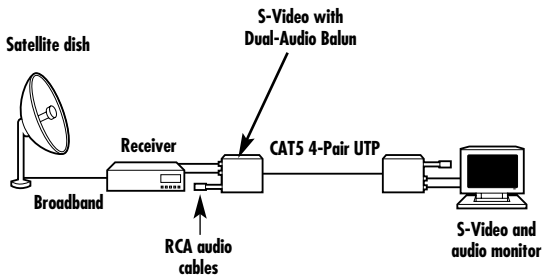

Figure 3-1. S-Video with Dual-Audio Balun satellite S-Video and audio application.
8. Connect a 4-pair CAT5 cable from the balun's RJ-45 connector to the appropriate modular wall outlet. See the typical applications in Figures 3-1 and 3-2. If the S-Video with Dual-Audio Balun is being installed, connect the audio connectors to the audio inputs (for example, loudspeakers) via RCA audio/video jumper cables.